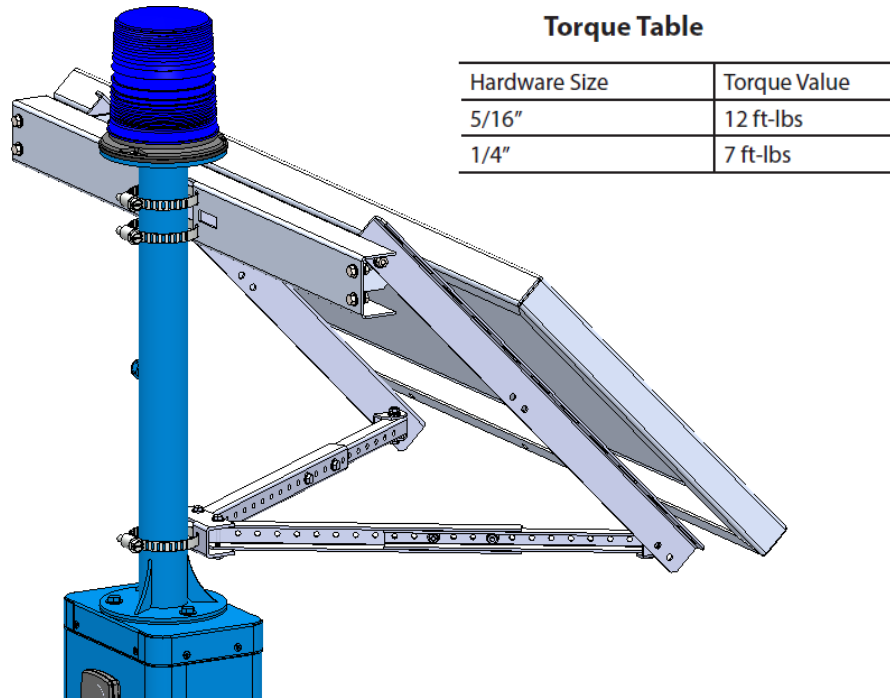

Figure 14. Assembled view of the solar panel and mounting brackets
14. Once all adjustments are complete, ensure that all hardware is adequately tightened to specifications listed in **Figure 14**.